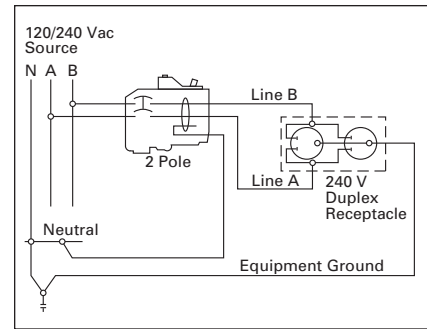

Figure 3-4. 2-Pole 240 Volt Load Application Sourced by 120/240 Vac
- ① Common trip refers to 2-pole 240 volt load application sourced by 120/240 Vac (see Figure 3-4).